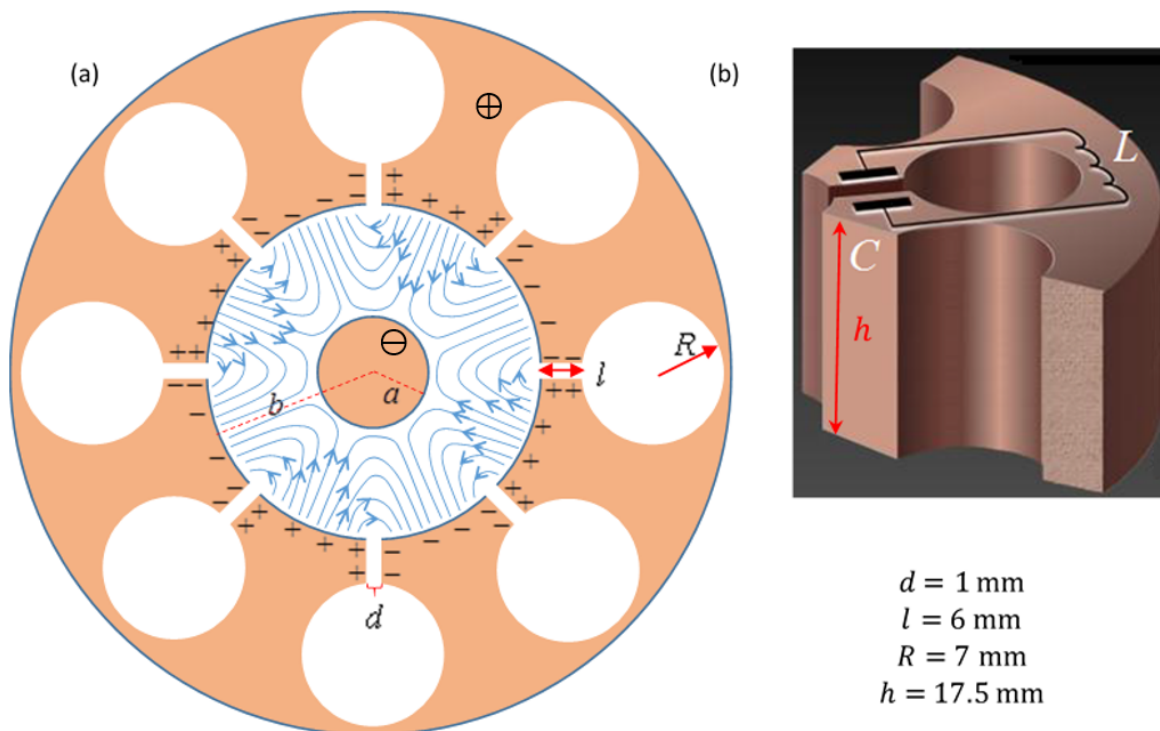

Figure 1
A typical microwave oven magnetron consists of a solid copper cylindrical cathode (with radius a) and a surrounding anode (with radius b). The latter has the shape of a thick cylindrical shell into which cylindrical cavities are drilled. These cavities are known as “resonators”. One of the resonators is coupled to an antenna which will transmit the microwave energy out; we will ignore the antenna in the following. All internal spaces are in vacuum. We will consider a typical magnetron with eight resonators, as depicted in Figure 1(a). The three-dimensional structure of a single resonator is shown in Figure 1(b). As indicated there, each of the eight cavities behaves as an inductor-capacitor (LC) resonator, with operating frequency $f = 2.45 \text{ GHz}$.
A static uniform magnetic field is applied along the magnetron's longitudinal axis, pointing out of the page in Figure 1(a). In addition, a constant voltage is applied between the anode (positive potential) and the cathode (negative potential). Electrons emitted from the cathode reach the anode and charge it, such that they excite an oscillation mode in which the sign of the charge is opposite between every two
The process described above creates an alternating electric field with the aforementioned frequency $f = 2.45$ GHz (blue lines in Figure 1(a); the static field is not plotted) in the space between the cathode and the anode, in addition to the static field caused by the applied constant voltage. In the steady state, the typical amplitude of the alternating electric field between the anode and the cathode is approximately $\frac{1}{3}$ of the static electric field there. The electron motion in the space between the cathode and the anode is affected by both the static and the alternating parts of the field. This causes electrons that reach the anode to transfer about 80% of the energy they acquire from the static field into the alternating field. A minority of the ejected electrons returns to the cathode and releases additional electrons, further amplifying the alternating field.
Each resonator can be thought of as a capacitor and an inductor, see Figure 1(b). The capacitance mainly arises from the planar parts of the resonator surface, while the inductance stems from the cylindrical part. Assume that the current in the resonator flows uniformly very close to the surface of its cylindrical cavity, and that the strength of the magnetic field generated by this current is 0.6 times that of an ideal infinite solenoid. The various lengths defining the resonator geometry are given in Figure 1(b). The vacuum permittivity and permeability are $\epsilon_0 = 8.85 \cdot 10^{-12} \frac{\text{F}}{\text{m}}$ and $\mu_0 = 4\pi \cdot 10^{-7} \frac{\text{H}}{\text{m}}$, respectively.